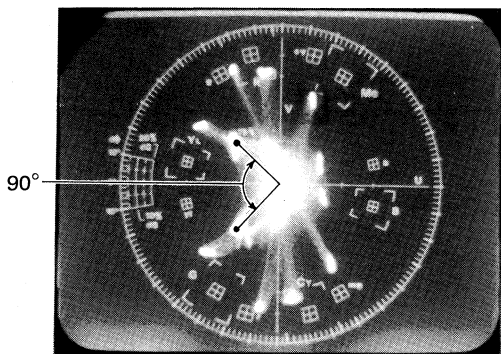

Fig. 4-2-53
- Adjust BURST PHASE VR23 so that the phase between two bursts becomes 90° each other on the vectorscope. (Fig. 4-2-53)